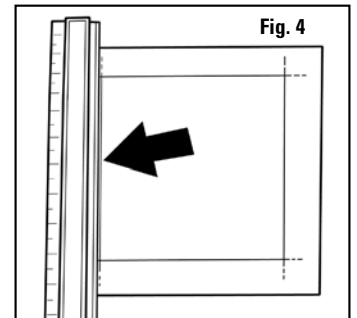
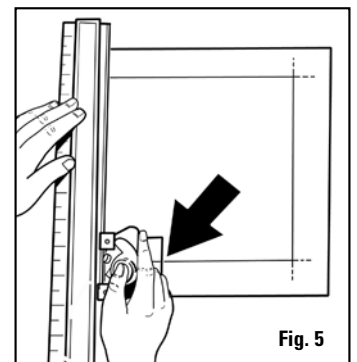

Fig. 4
Fig. 5
2. Place the mat face down on the Slip Sheet. Place the Straight Edge EXACTLY on the left hand border so that the outside edge of the channel is lined up along the pencil line. **Fig. 4** Make sure that the bulk of the mat is to the right hand side of the Straight Edge. Having the mat on the left side of the Straight Edge will result in a reversed bevel cut. Attach the 302 Bevel Cutter to the straight edge by fitting the black nylon guides over the raised edge of the channel. Position the Mat Cutter so that the silver indicator line lines up with the bottom intersecting pencil line. **Fig. 5**